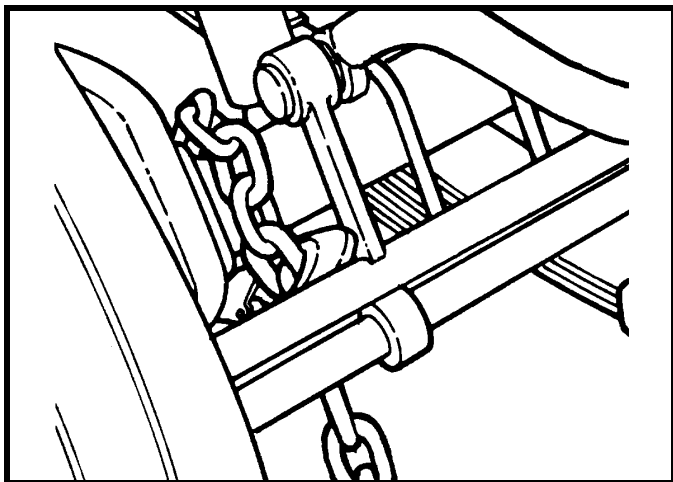

FIGURE 4.7 AXLE HOOK-UP
- (b) Route free end of chain to vehicle to be towed and attach to chassis around axle, leaf springs, frame or "A" frame. See Figures 4.7 thru 4.10.